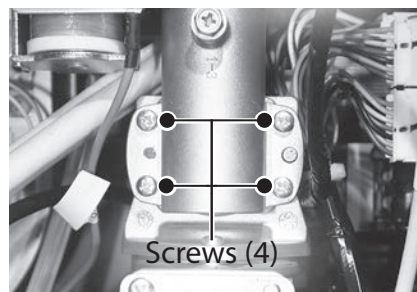

Figure 150 - Remove screws securing gas valve
- 42** Locate and remove the four screws securing the gas valve to the gas manifold. Place screws aside in a safe place for reinstallation. See Figure 150.
77 Locate the four gas valve screws previously removed in **Step 42**. Secure gas valve to the gas manifold and heat exchanger assembly. See Figure 150.